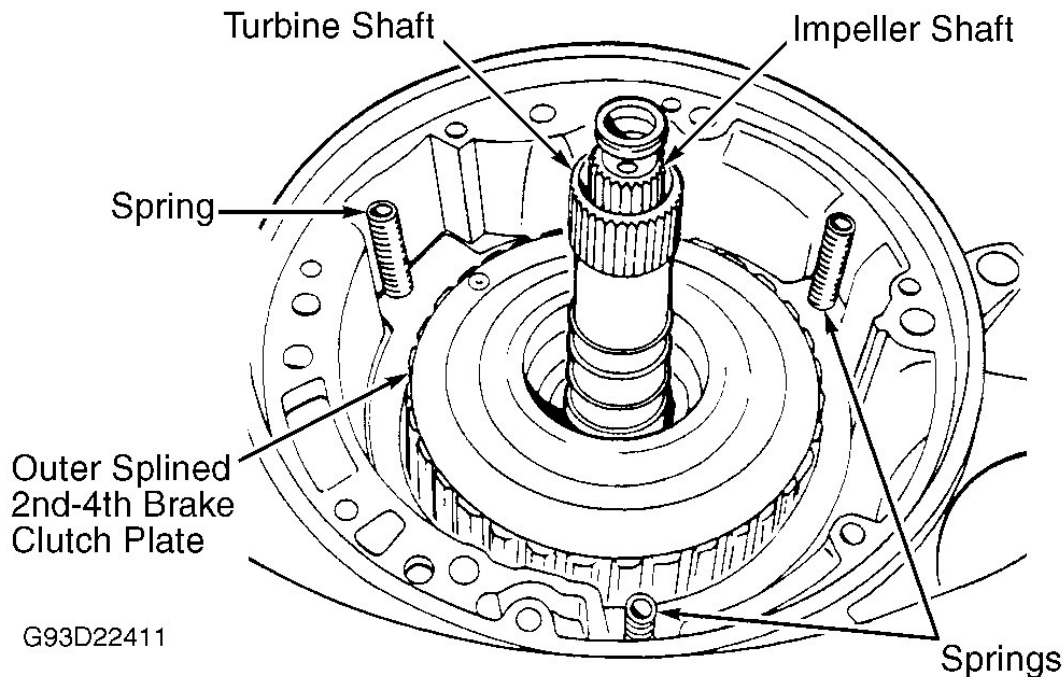
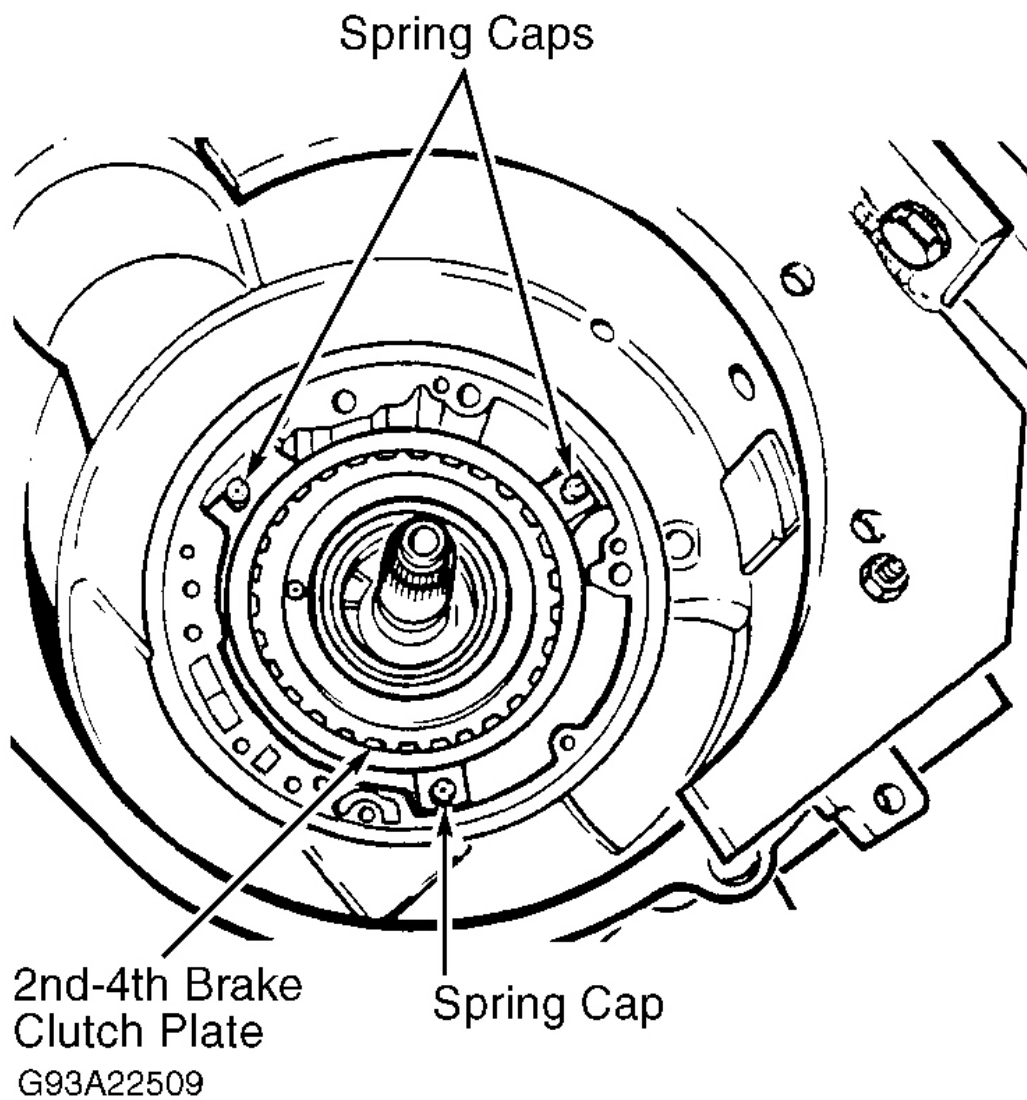

Fig. 78: Installing 2nd-4th Brake Clutch Plate & Springs
Fig. 79: Installing 2nd-4th Clutch Plates
12. Install friction plates and outer splined plates for reverse apply clutch into transaxle case. See **Fig. 78**. Install 3 springs and cap springs. Install 2nd-4th brake clutch plates. See **BRAKE CLUTCH PLATE APPLICATIONS** table. Also, see **Fig. 79**. Install 3 spring caps to springs.